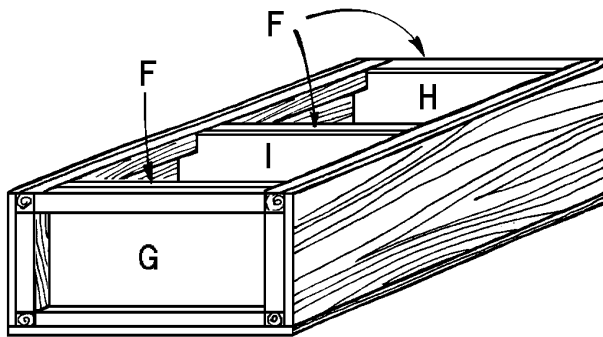

Figure 6
2. Stand the armoire (well, half-assembled armoire) right side up. Fit the Bottom (H) over the lowest inner 2 x 2 horizontal supports. Glue and screw it to all four of the horizontal supports using 1-1/4-inch-long screws. Take special care to make certain that the Front Horizontal Supports are flush with the exposed edges of the Bottom (H) as shown in *Figure 6*.
3. Repeat the process to add the Middle Shelf (I) fitting it over the horizontal supports 29-1/4 inches from the top. Again make sure that the front edges are flush, as you did for the Bottom (H).
4. The Top (G) is attached to the uppermost horizontal supports, but is attached on the lower face of those supports, so the horizontal supports will not be visible inside the finished armoire. Attach it in the same manner used for the shelf (I), making sure that the front edges are flush.